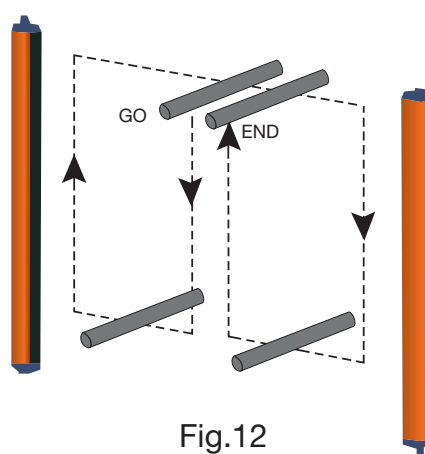

Fig.12
- ESPE remains blocked (  I ) intercepting the beams along the protected area using the specific test piece, following the Fig.12 scheme.